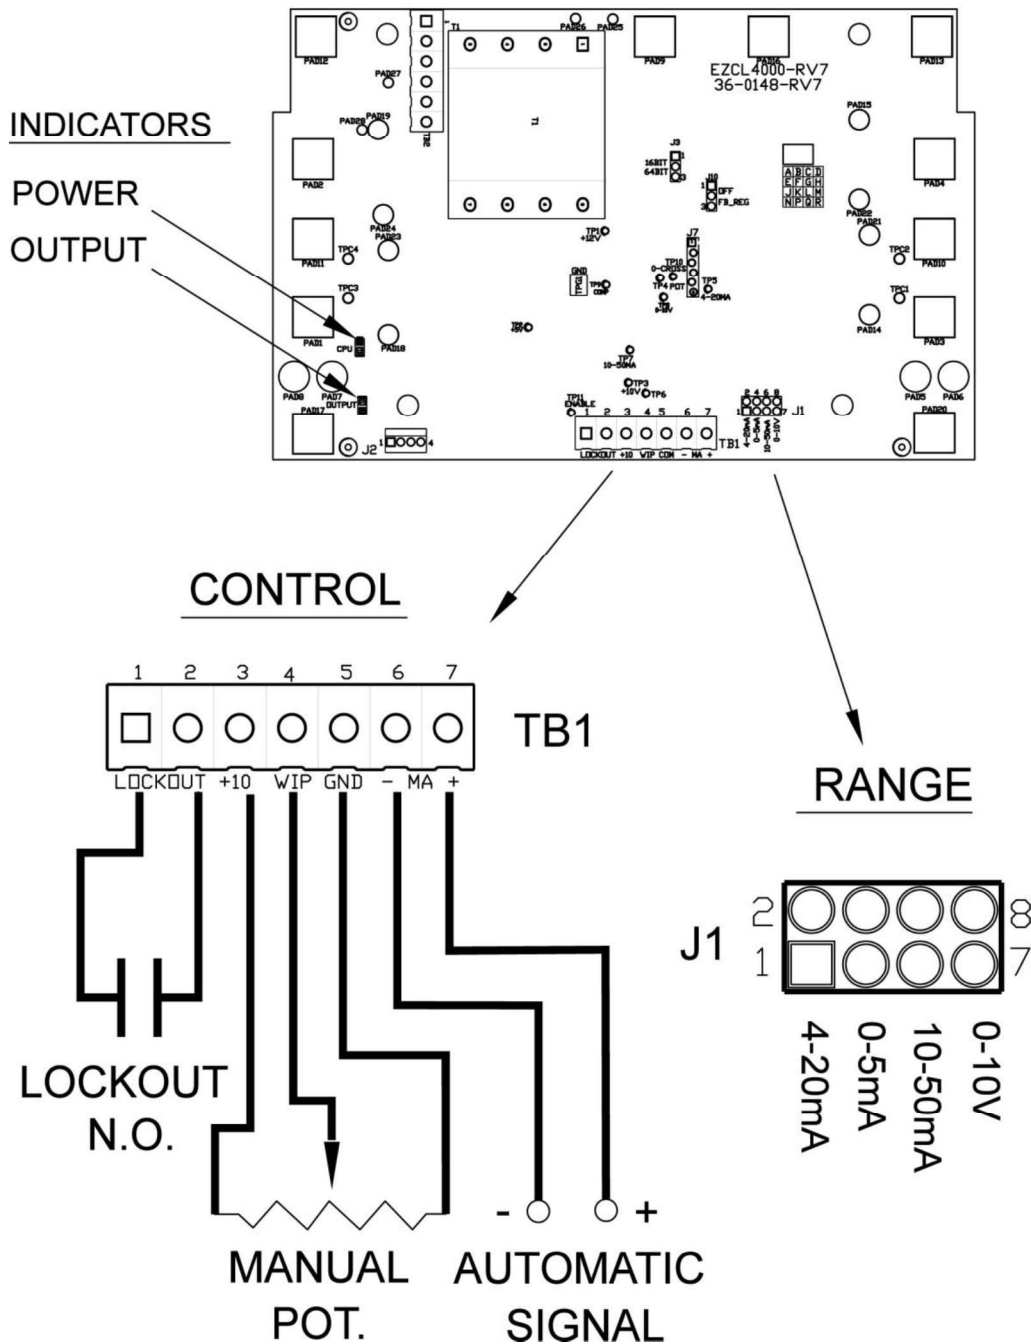

Figure 2
3. Check "J1" plug for correct position to match your automatic control signal. The unit is shipped with the jumper in the 4-20 mA position. See figure 2 or 3, depending on your unit.